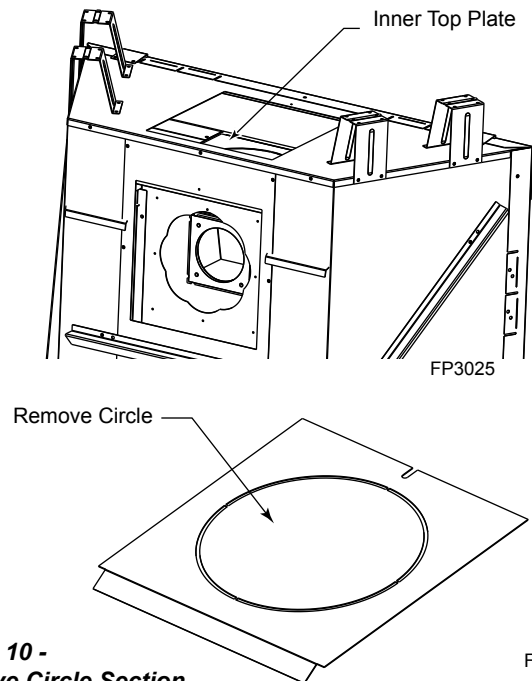

Figure 10 - Remove Circle Section from Inner Top Plate
5. Remove one (1) screw to remove the inner top plate located on top directly beneath the plate just removed. Break away the 7" circle using a screwdriver and re-install. *Figure 10*